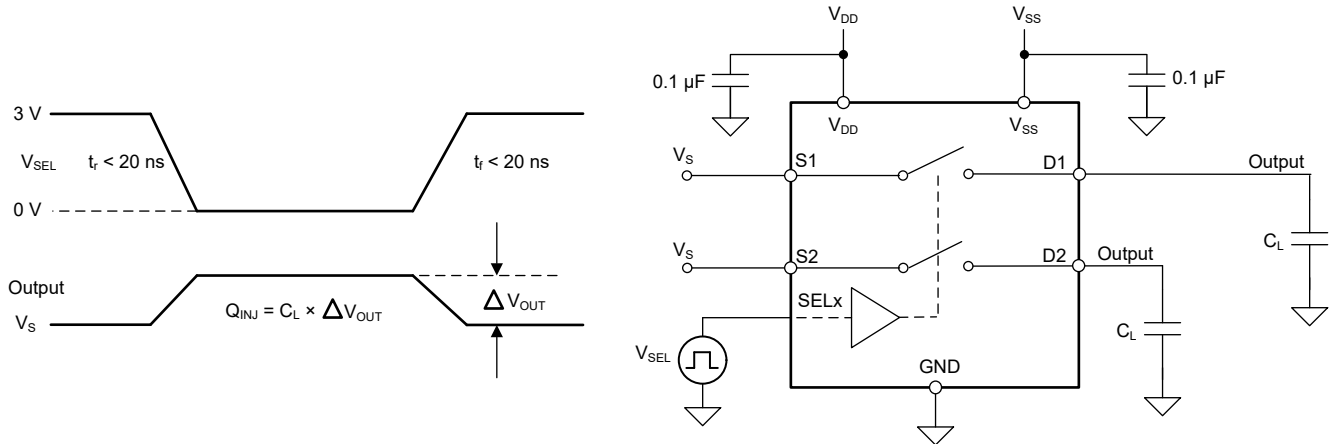

Figure 7-7. Charge-Injection Measurement Setup
The TMUX622x has a transmission-gate topology. Any mismatch in capacitance between the NMOS and PMOS transistors results in a charge injected into the drain or source during the falling or rising edge of the gate signal. The amount of charge injected into the source or drain of the device is known as charge injection, and is denoted by the symbol  $Q_C$ . Figure 7-7 shows the setup used to measure charge injection from source (Sx) to drain (D).